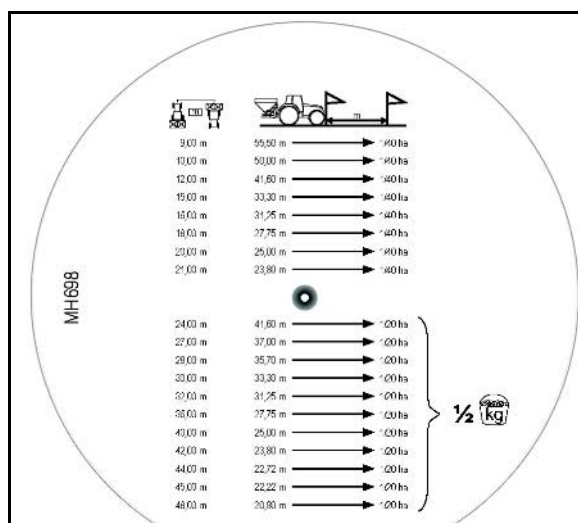

Fig. 63
On the scale (Fig. 63/2) for collected quantity [kg], look for the value (A) and align with the selected slider position (B) of the coloured scale (Fig. 63/3).
3. Look for the desired spread rate (C) and read off the required slider position (D).